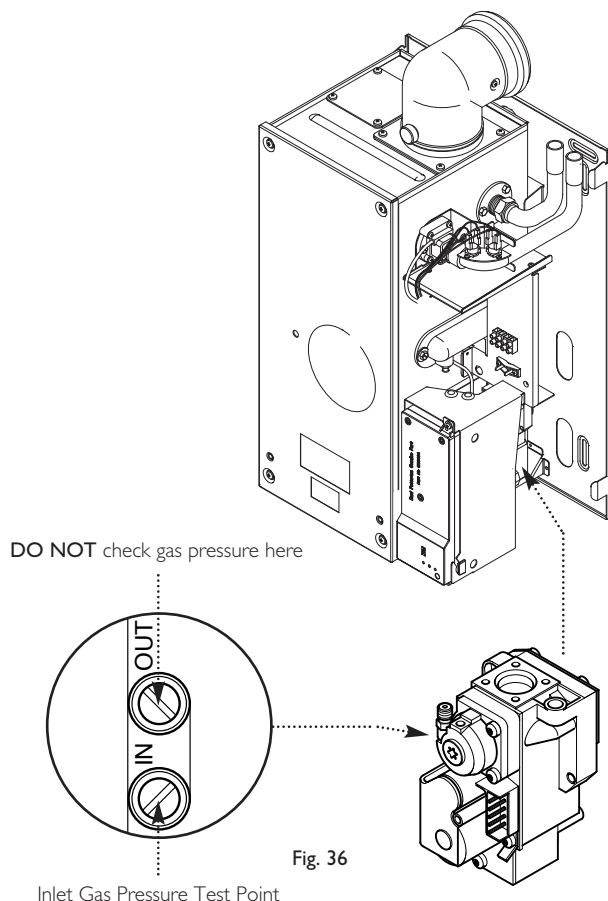

Fig. 36
8. With the system cold and all controls calling for heat check the gas pressure at the inlet tapping of the gas valve (Fig. 36). The pressure must be a minimum of 18.1 mbar (Working Pressure). Check that the gas rate is no greater than 3.3m3/h.